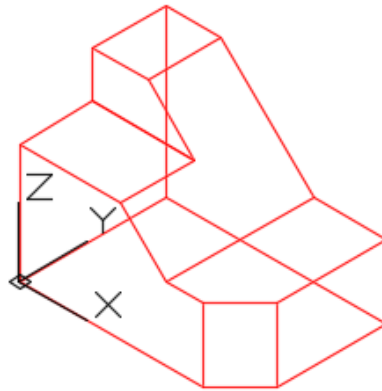

Figure Step 17
Step 17 Change the current view to SE Isometric. (Figure Step 17)